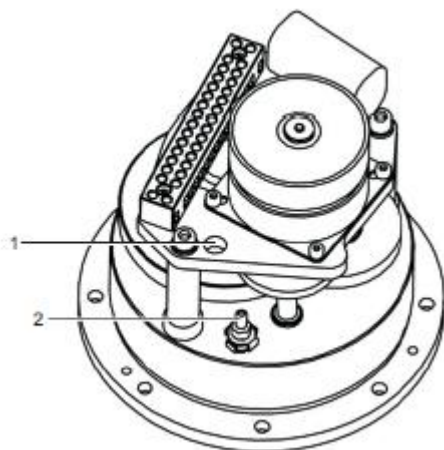

Fig. 10 Tilt gear box assembly
All electrical connections to any external equipment must be via the internal earth stud or the terminal block assembly; both are fitted to the tilt gear box assembly (see Fig. 10).
1. The earth wire (E) must be connected as the primary earth directly to the earth stud on the tilt gear box assembly (see Fig. 10). The wire is fed through a hole in the gear plate and secured to the adjacent pillar using the tie wrap provided (see Fig. 10).